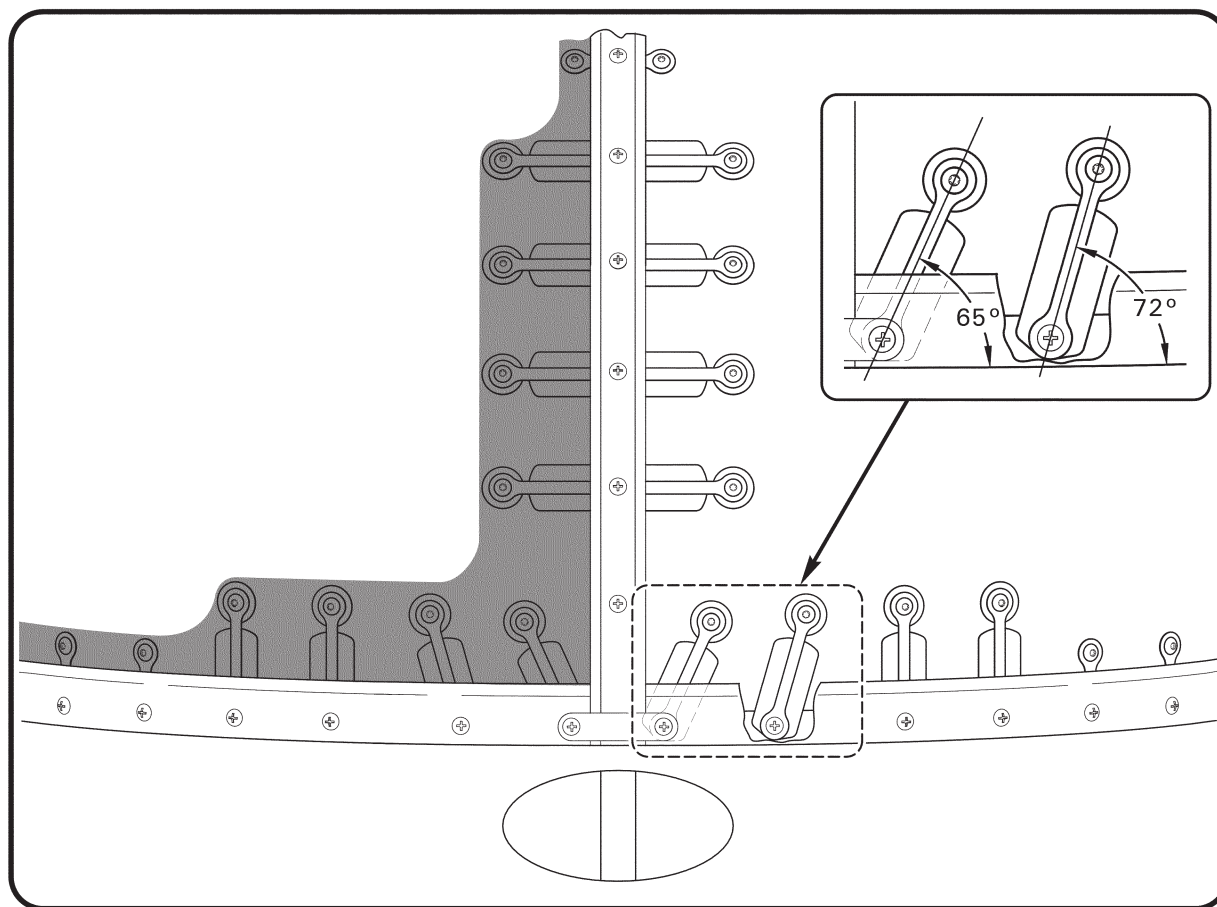

FIGURE 25-2 G367 TIES AND STRAPS INSTALLATION
5. Refer to Figure 25-2. Align G367 ties and straps perpendicular to retainers within  $2^\circ$ , except at locations shown. Install B410-3 stiffener and special torque screws per § 23-33. Match drill #40 pilot holes through windshield and install clecos.